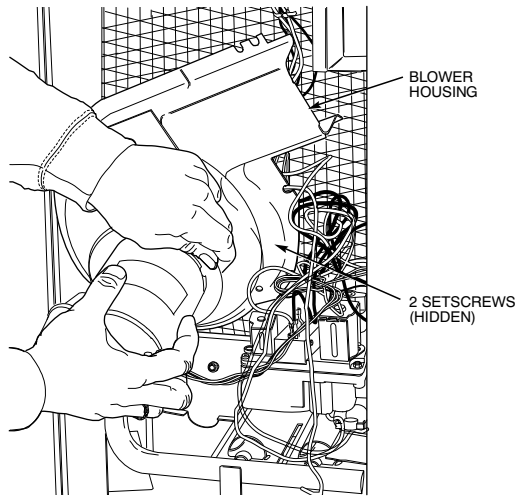

Fig. 25 – Removal of Motor and Blower Wheel
3. Slide the assembly out of the unit. (See Fig. 25). Clean the blower wheel. If additional cleaning is required, continue with Steps 4 and 5.